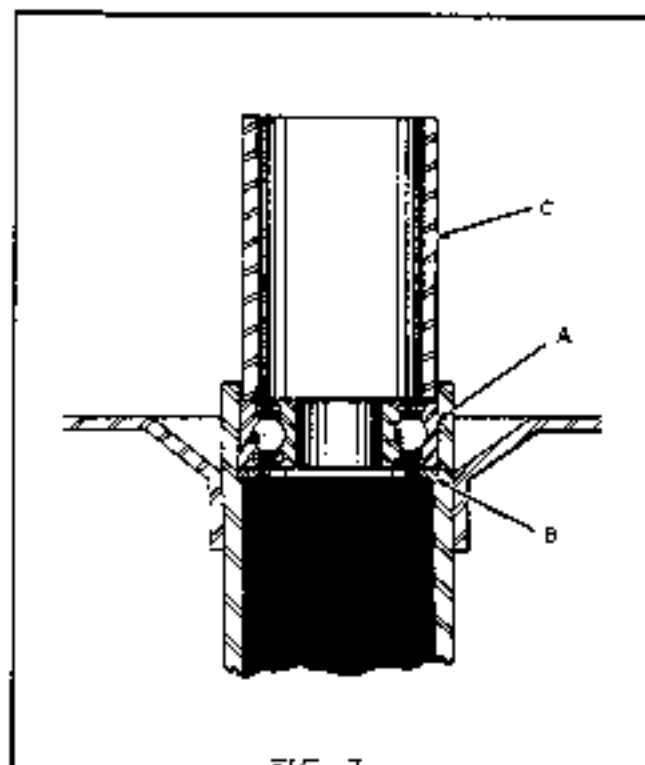

FIG. 7
1. Install the upper bearing 'A' so that the green face of the bearing is toward the backing ring 'B' in the tube assembly. Use a tube 'C' or sleeve to press against the outer race of bearing and press the bearing firmly against the backing ring. (Refer to Fig. 7).